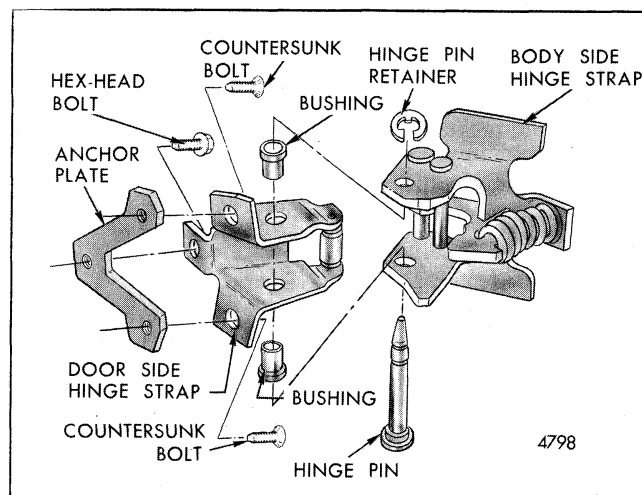

Fig. 5-85-Door Hinge Components - "H" Styles
NOTE: Weld-on hinges cannot be reinstalled. A new service replacement door side hinge strap with bolt-on provisions must be installed (Fig. 5-85).
To restore acceptable structural integrity when installing replacement hinges, it is necessary to use tapped anchor plates instead of nuts and washers. Anchor plates, bolts, bushings, hinge pins, hinge pin retainers and door side and body side hinge straps are available separately (Fig. 5-85).
6. Coat hinge surface that mates with hinge pillar with medium-bodied sealer. Install hinge strap using two countersunk bolts (Part No. 7667647 or equivalent), one hex-head bolt (Part No. 8746511 or equivalent), and one anchor plate (Part No. 9840410 or equivalent) as shown in Fig. 5-85. Torque hinge bolts to 17 to 22 foot-pounds.